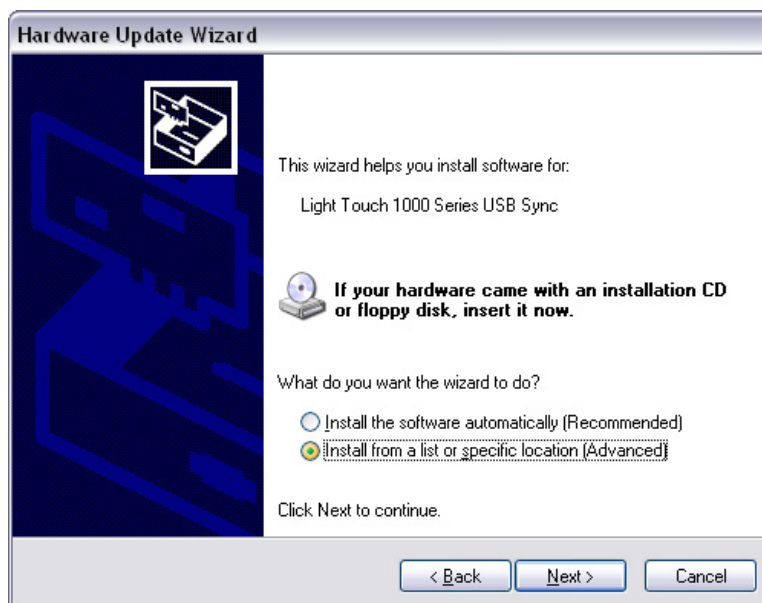

Figure 20 - Hardware Update Wizard (Step 2)
- 2) Select the option 'No, not this time' and click 'Next'. A second dialogue window will appear, as shown in Figure 20.